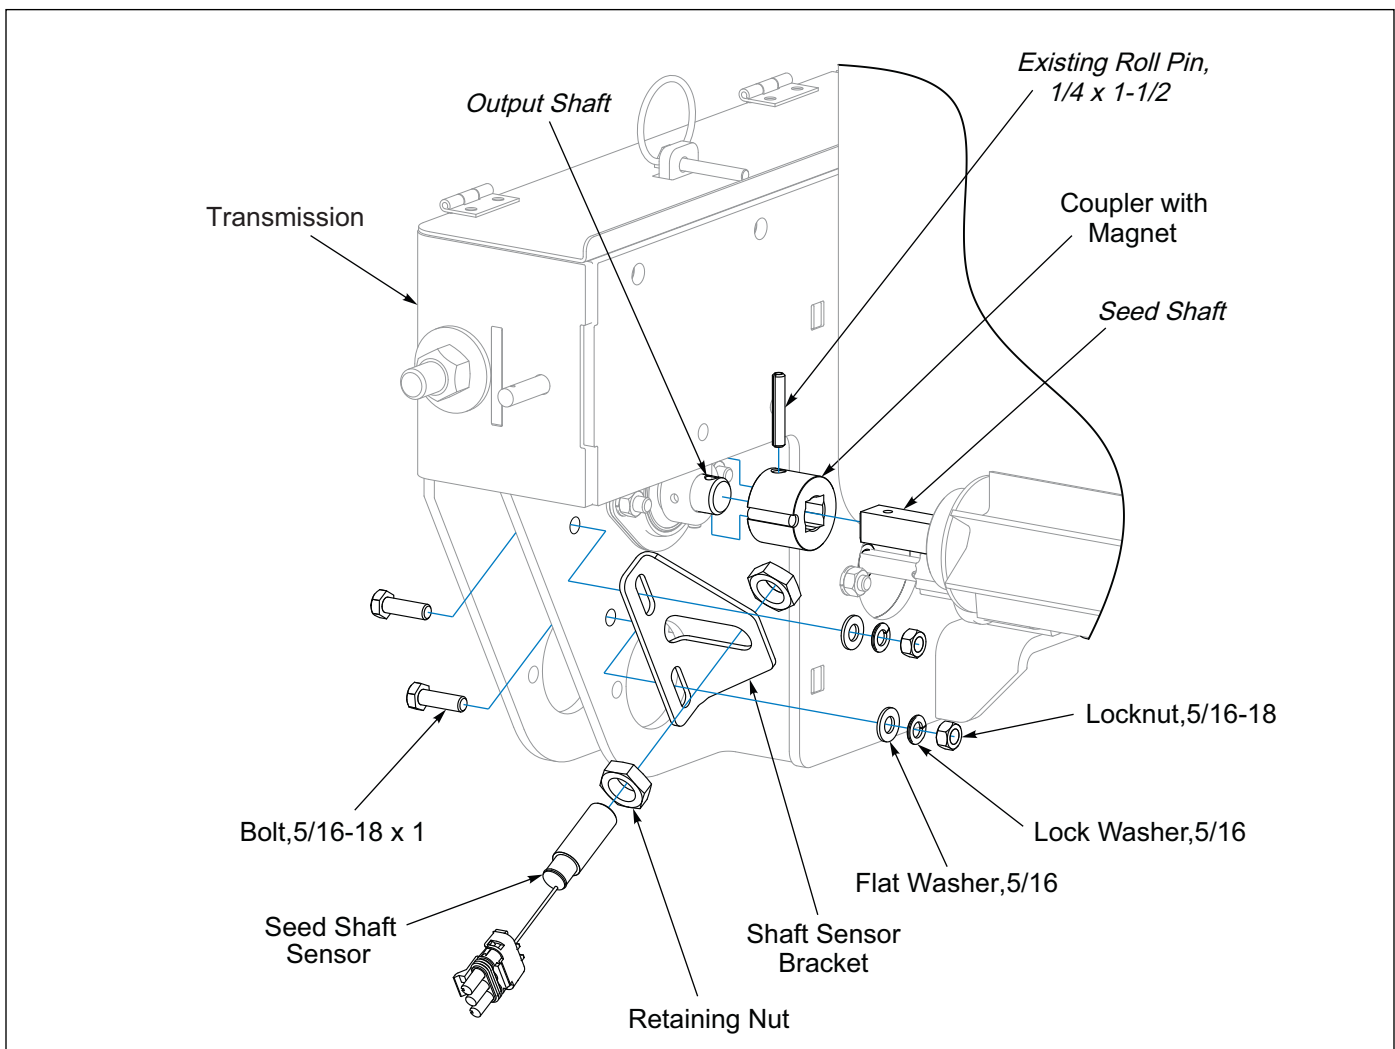

Figure 2-26: Brome Box LH Seed Shaft Sensor Bracket
1. At the Transmission/left side of Seeder remove 1/4 x 1-1/2 Roll Pin from Seed Shaft Coupler. **See Figure 2-26.**